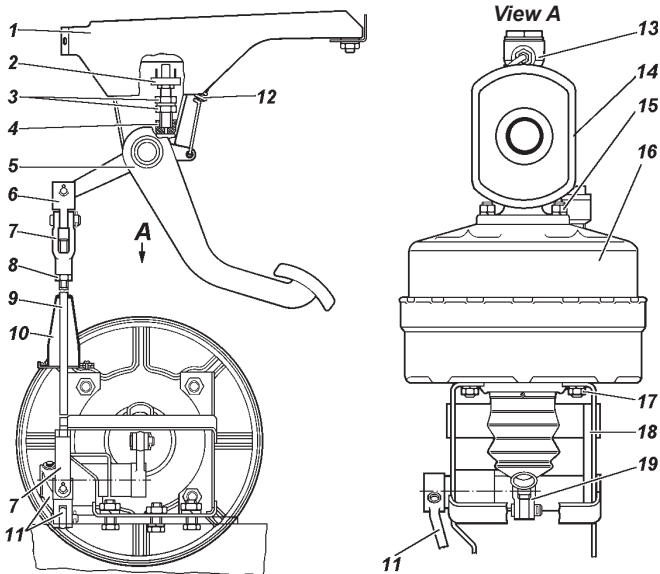

Fig. 9.32. Drive of Master Brake Cylinder:
The brake fluid level in tank 14 (see Fig. 9.32) can be checked visually using marks on the tank housing made of semitransparent plastic.
**The pedal travel** is adjusted by changing the length of vertical drive rod 9 (Fig. 9.32). The pedal full travel is 200 mm. The pedal free travel shall be 5–14 mm.